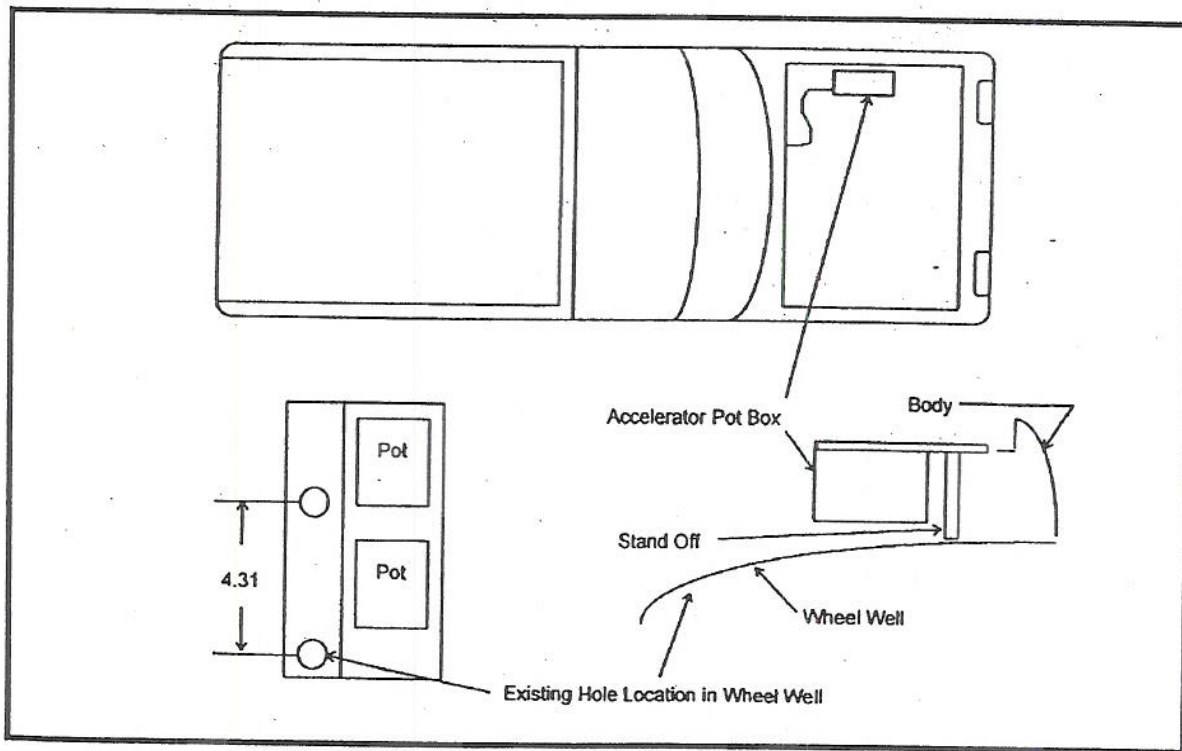

Figure 6-3 - Accelerator Potentiometer Box Mounting
5. Remount the pot box as shown in figure 6-3 using a longer 5/16" - 18 x 3" and a 5/16" - 18 x 4-1/2" bolt, new longer standoffs, and the original nuts. Tighten to 18 ft-lbs.